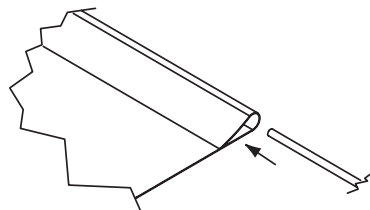
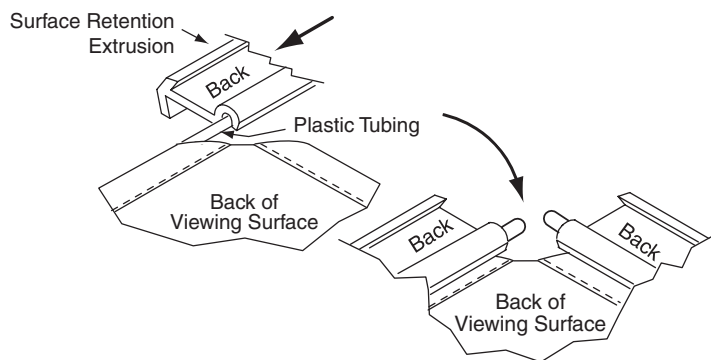

Figure 8
Figure 9
- ① Move frame assembly out of the way, unroll viewing surface and place on smooth/clean surface. (Orient viewing surface so that folded side of hem is visible.)
- ② Insert plastic tubing inside pocket formed by hem on all 4 edges of viewing surface (see Fig. 8).
- ③ **Carefully** slide surface retention extrusion (rounded edge visible) along hem and onto surface on all 4 edges of fabric (see Fig. 9). **Caution: Do not allow fabric to snag on end of extrusion. If the screen fabric is not parallel with the surface retention extrusion, then it may slit and tear during installation.**
- ③ Divide surface retention extrusions up so they will be evenly spaced all the way around the screen.
- ④ **Carefully** slide surface retention extrusions (rounded edge visible) along hem and onto surface on all 4 edges of fabric (see Fig. 9). **Caution: Do not allow fabric to snag on ends of extrusions. If the screen fabric is not parallel with the surface retention extrusion, then it may slit and tear during installation.**